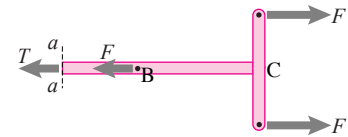

Figure 8.21
1. Let us cut the bar at section $a-a$ and consider the part of the bar to the right of the cut-section. The free-body diagram of this part of the bar is shown in fig. 8.21. The scalar force balance in the horizontal direction gives